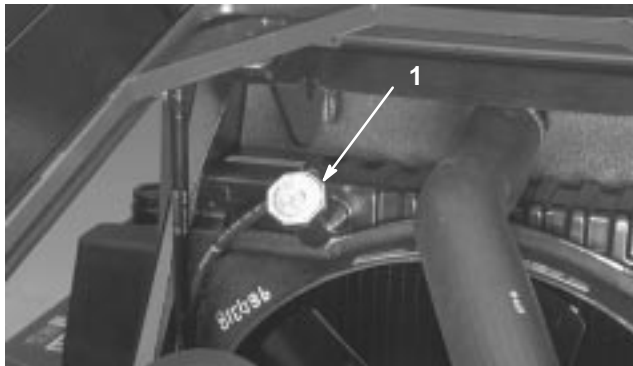

Figure 5
2. Remove radiator cap (Fig. 5). Level of coolant must be above the radiator core and about 1 in. (25 mm) below bottom of filler neck.